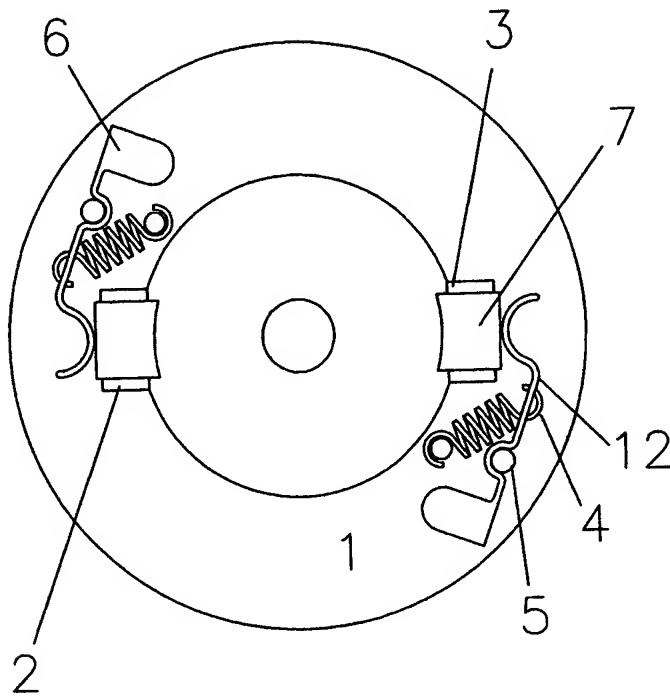

Fig 1
Figure 1 consists of two cross-sectional views, (A) and (B), of a magnetic core assembly. View (A) shows a core with a central gap and a top arm with a lead orifice. View (B) shows a similar core with a different lead orifice design. Labels include 1, 3, 7, 9, 10, 11, 15, and 'Armature Lead Orifice'.